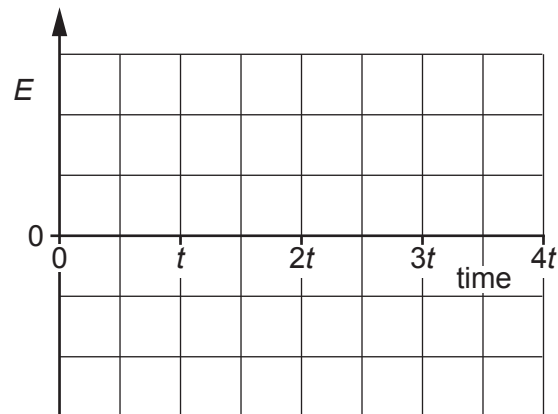

**Fig. 6.3**
- (iii) Coil C is now held stationary at X. The current in the solenoid varies so that the magnetic flux density  $B$  at X varies from time 0 to time  $4t$  as shown in Fig. 6.3.